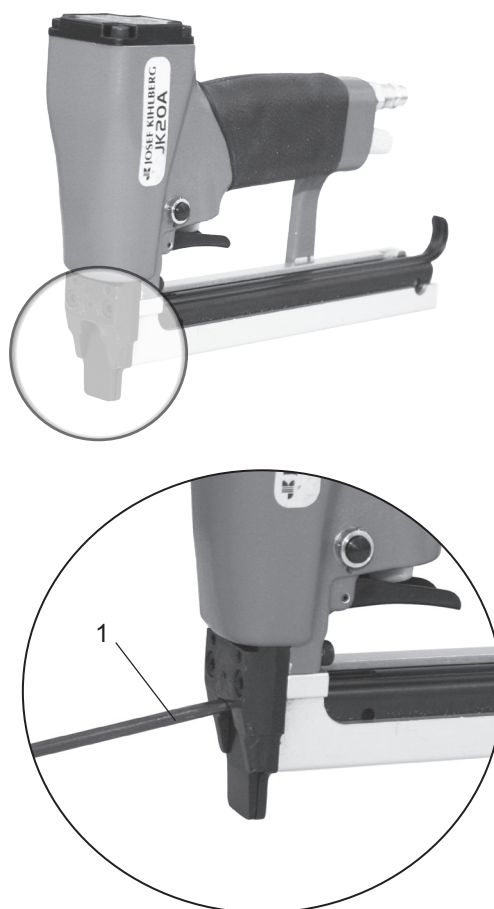

Fig. 5
- Pry the door open with a screw driver (fig.5/1). It is three notches in the door to simplified the disassemble.